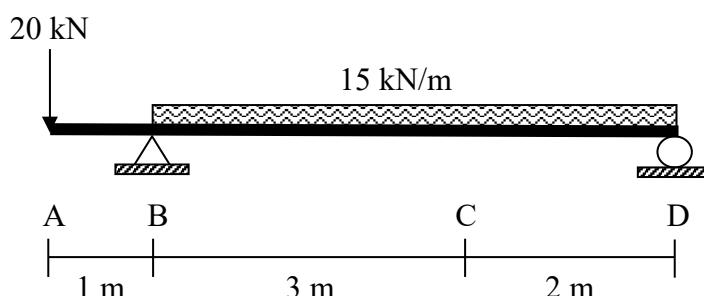

Figure A2(a) / Rajah A2(a)
- CLO3 (a) The overhanging beam is subjected to a point load and uniformly distributed load as shown in Figure A2(a). By using Influence Lines Diagram Method, calculate: